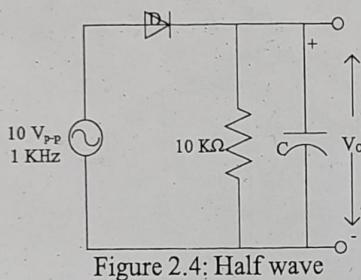
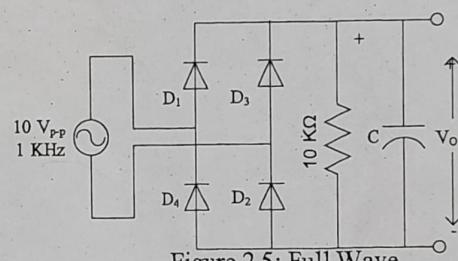

Figure 2.4: Half wave
Figure 2.5: Full Wave
- First, connect the circuit in breadboard as shown in figure 2.4 without any capacitor.
- Repeat steps 1-6 for Figure 2.5.
c) Input-output with $10\mu F$ (fig 2.4)
f) Input-output with $10\mu F$ (fig 2.5)
1. For Fig 2.4 and Fig 2.5, draw the input-output wave-shape without capacitor, with $0.22\mu F$ capacitor and $10\mu F$ capacitor.